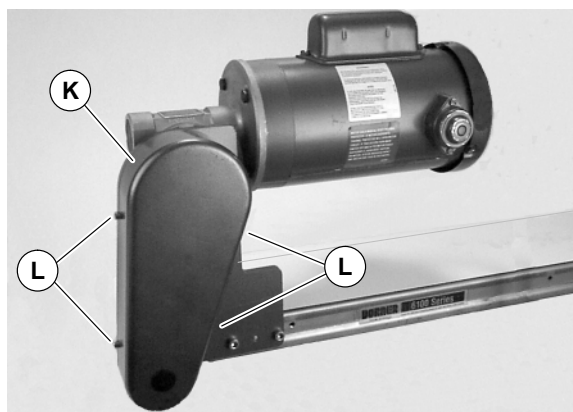

Figure 10
9. Install cover (K of Figure 10) with four (4) screws (L). Tighten to 35 in-lb (4 Nm).
1. Remove four (4) screws (L of Figure 10) and remove cover (K).
4. Install cover (K of Figure 10) with four (4) screws (L). Tighten to 35 in-lb (4 Nm).
6. Install cover (K of Figure 10) with four (4) screws (L). Tighten to 35 in-lb (4 Nm).